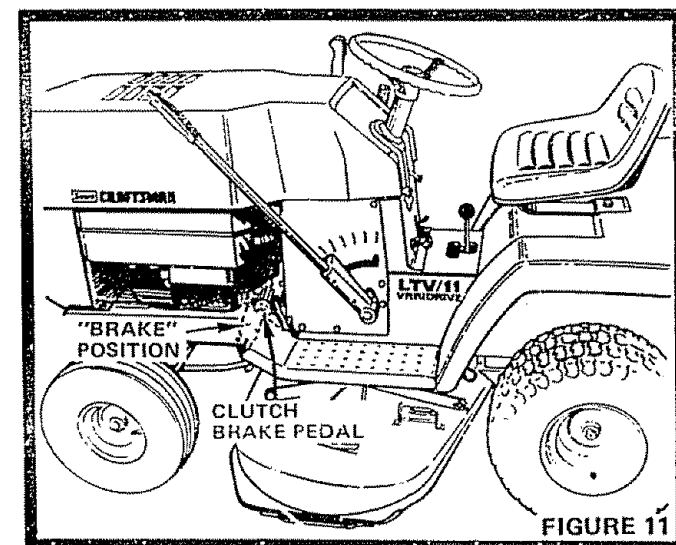

FIGURE 11
2. Seat position should be adjusted forward or backward so that operator can comfortably reach Clutch-Brake Pedal (Fig. 11).
2. Push Clutch-Brake Pedal fully into "BRAKE" position (Fig. 11).